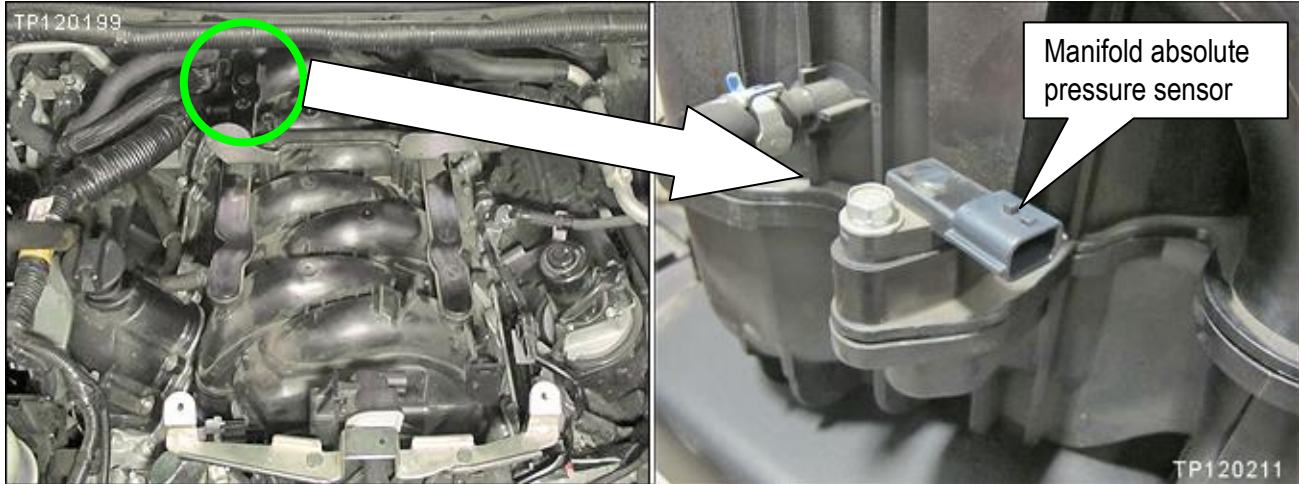

Figure 8
14. Disconnect the manifold absolute pressure sensor electrical connector (see Figure 8).